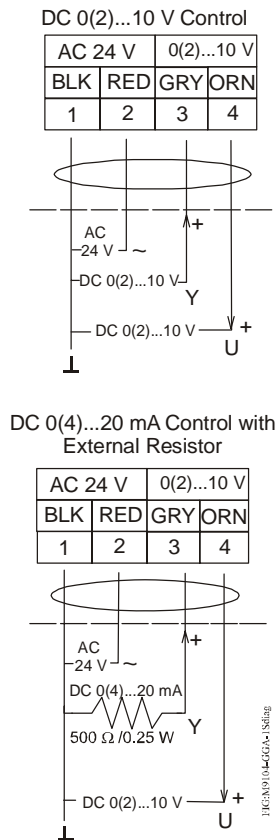

Figure 10: M9104-GGA-1S Control Wiring Diagram
The M9104-GGA Series Electric Non-Spring Return valve actuators require AC 24 V power and a DC 0(2) to 10 V or DC 0(4) to 20 mA controller input signal. These electric actuators include an integrated 1.2 m (48 in.) long cable. See Figure 10 for proper wiring.